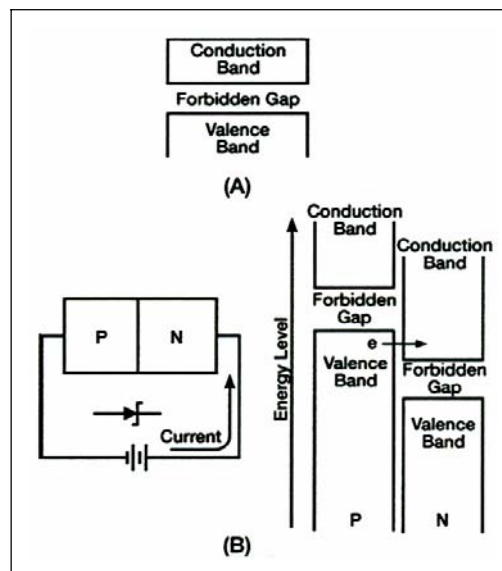

Figure 3-2. Energy Diagram for Zener Diode
3-6. The true Zener effect in semiconductors can be described in terms of energy bands. However, only the two upper energy bands are of interest. The two upper bands (see Figure 3-2, view (A)) are called the **CONDUCTION BAND** and the **VALENCE BAND**.
3-9. A conductor is a material in which the forbidden gap is so narrow that it can be considered nonexistent. A semiconductor is a solid that contains a forbidden gap (see Figure 3-2, view (A)). Normally, a semiconductor has no electrons at the conduction band energy level. However, the energy provided by room temperature heat is enough energy to overcome the binding force of a few valence electrons and to elevate them to the conduction band energy level. The addition of impurities to the semiconductor material increases both the number of free electrons in the conduction band and the number of electrons in the valence band that can be elevated to the conduction band. Insulators are materials in which the forbidden gap is so large that practically no electrons can be given enough energy to cross the gap. Therefore, unless extremely large amounts of heat energy are available, these materials will not conduct electricity.
3-10. Figure 3-2, view (B) shows an energy diagram of a reverse-biased Zener diode. The energy bands of the P and N materials are naturally at different levels. However, reverse bias causes the valence band of the P material to overlap the energy level of the conduction band in the N material. Under this condition, the valence electrons of the P material can cross the extremely thin junction region at the overlap point without acquiring any additional energy. This action is called tunneling. When the breakdown point of the PN junction is reached, large numbers of minority carriers “tunnel” across the junction to form the current that occurs at breakdown. The tunneling phenomenon only takes place in heavily doped diodes such as Zener diodes.